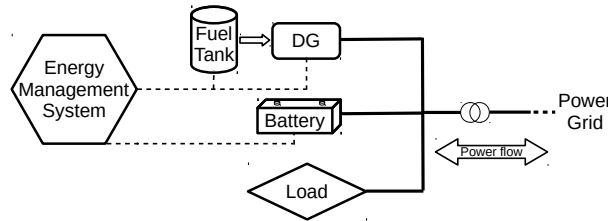

Figure 1: Schematic structure of the considered microgrid.
We consider a microgrid that is connected to the main power grid. Figure 1 presents a schematic diagram of the considered microgrid, where diesel generators (DG) units and their fuel tanks, batteries, and an energy management system (EMS) are the devices considered in this assignment. Assume that the EMS has an accurate prediction of the load in the microgrid and is able to communicate with diesel generators and batteries without any delay. We assume that the microgrid always satisfies the power balance condition, i.e., the amount of power used by the load and the charging batteries is equal to the power provided by the power grid, diesel generators, and the discharging batteries.